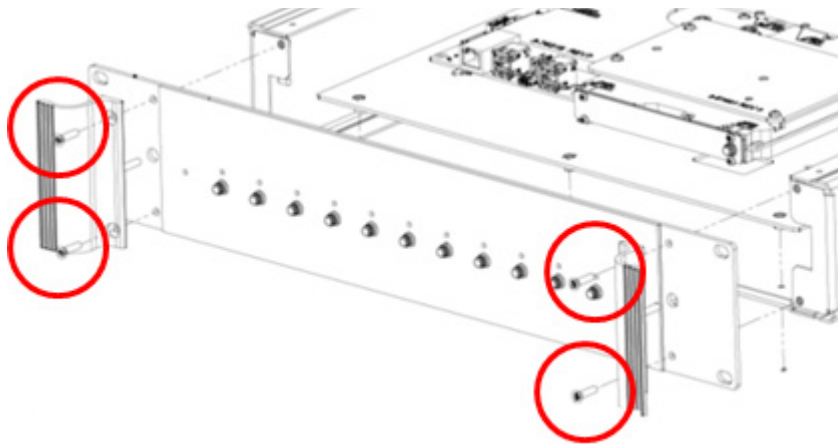

Figure 3-13. Front Panel Screws
3. Referring to Figure 3-13, remove the 4 screws securing the front panel to the side panel.